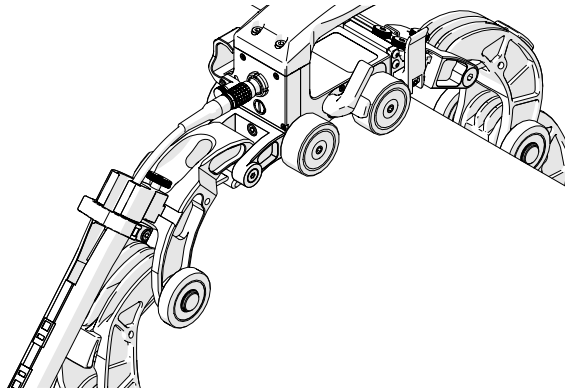

Fig. 163 - Attach cable management and route cables
10. Attach the cable management (Fig. 163) and route cables as required (see *Cable Management System* on page 35).